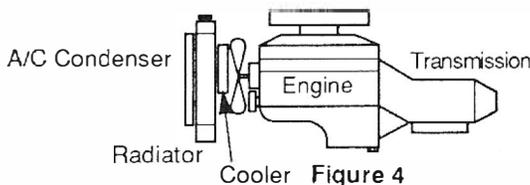

Figure 4
**Location 3.** This location is behind both the air conditioning condenser and the radiator. This location permits approximately 60% rated cooling efficiency (See Fig. 4). Installing your cooler in this location may